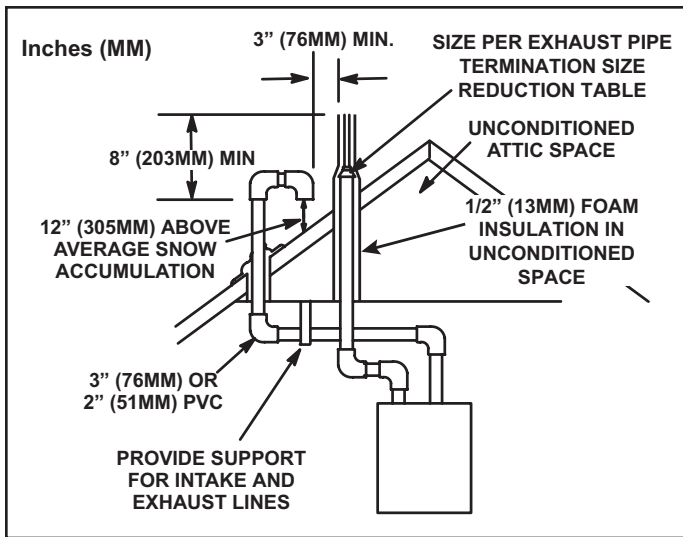

Figure 36. Direct Vent Roof Termination Kit 15F75 or 44J41
Intake and exhaust pipes may be routed either horizontally through and outside wall or vertically through the roof. In attic or closet installations, vertical termination through the roof is preferred. Figure 36 through Figure 43 show typical terminations.
3. On roof terminations, the intake piping should terminate straight down using two 90° elbows (see Figure 36).